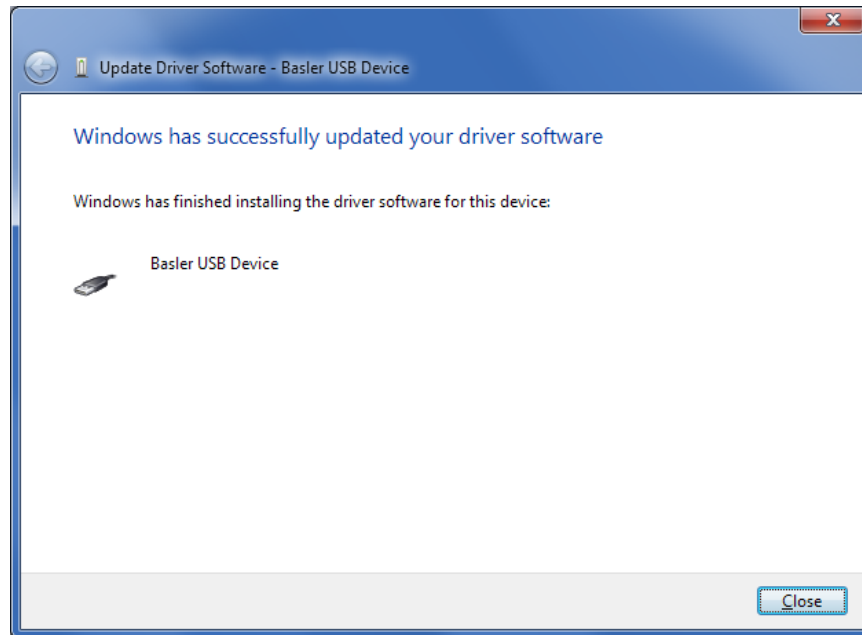

Figure 79-7. Driver Software Update Successful
Step 7. The window in Figure 79-7 appears if driver installation was successful.